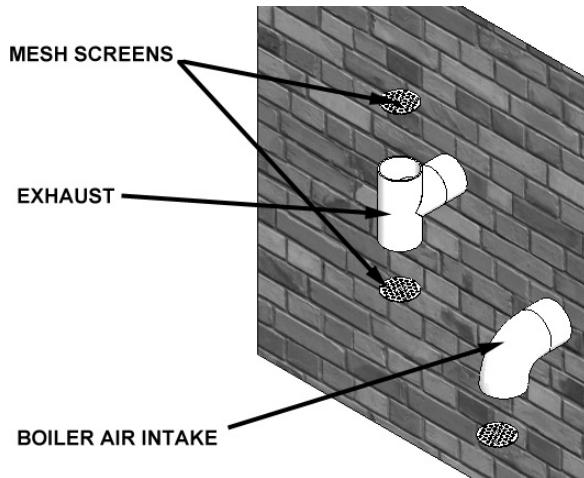
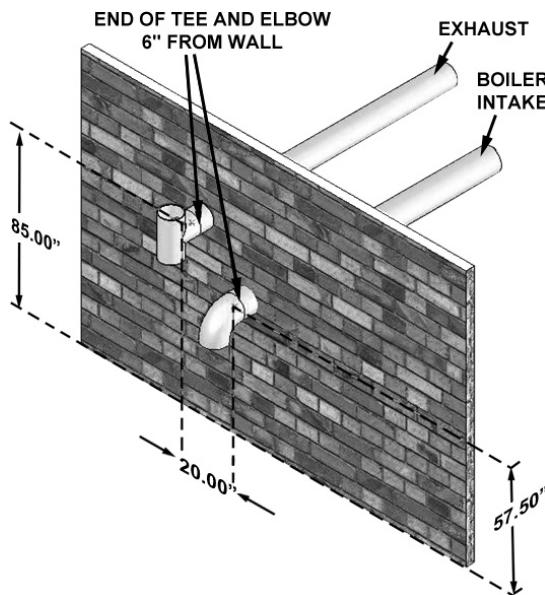

FIGURE 33. AIR/VENT TERMINATION - HORIZONTAL
FIGURE 34. HORIZONTAL CLEARANCES - AIR/VENT TERMINATION
3. The air piping must terminate in a down-turned elbow, using a mesh screen. This setup will avoid recirculation of flue products into the combustion air stream. See Figure 33.
4. The vent piping must terminate with a Tee pointed upwards and away from the air inlet. See Figure 33.
5. Maintain clearances as shown in Figure 33 and Figure 34. Vent must terminate:
Air inlet must terminate at least 12 inches (305 m) above grade or snow line; at least 12 inches (305 mm) below the vent termination; and the vent pipe must not extend more than 24 inches (610 mm) vertically outside the building as shown in Figure 33 and Figure 34.